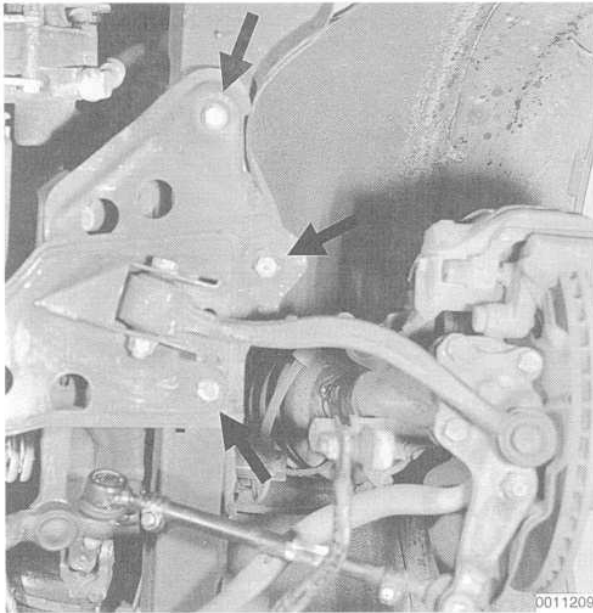

Fig. 19. Left side crossmember-to-chassis mounting bolts (arrows).
9. Unbolt the crossmember from the chassis on both sides. See Fig. 19.